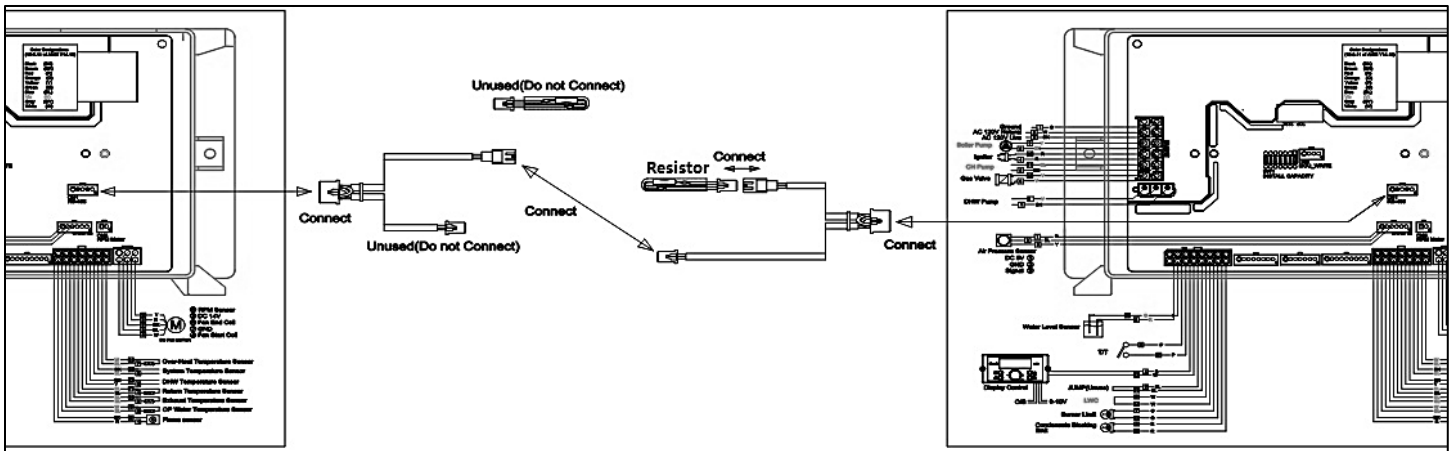

Figure 35 – Example of Cascade Wiring
1. Connect the cascade communication cables to every unit. See Figure 35. Add resistor to the end of the last follower.